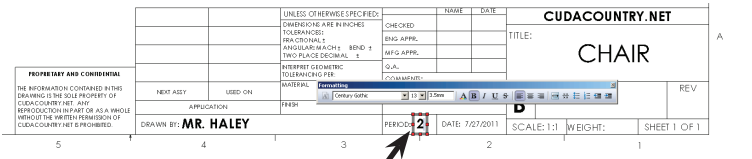

Fig. 14
Step 7. Click just to the right of **PERIOD**., click and key-in **your Period number**, **Fig. 14**.